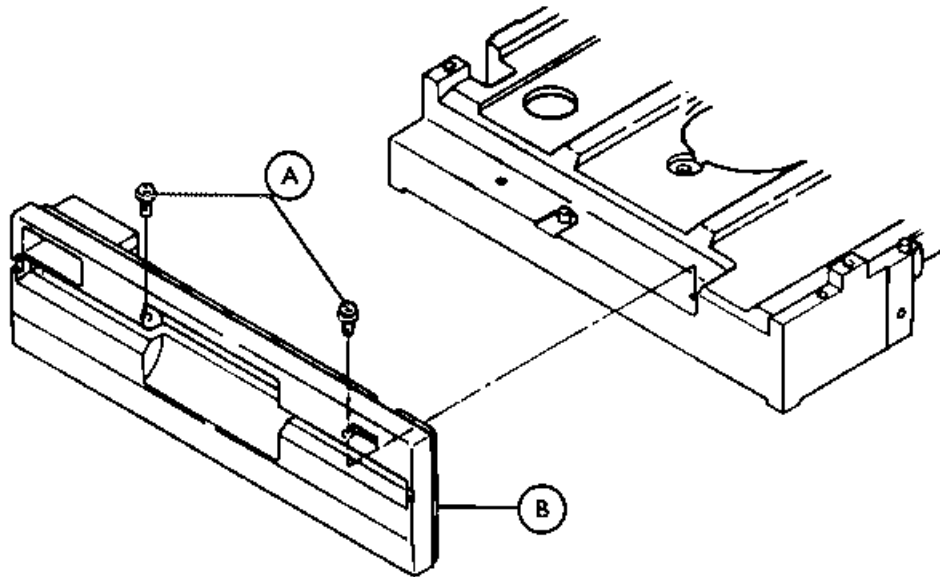

FIGURE 4-9. FRONT PANEL REMOVAL/REPLACEMENT
4.3.5 Front Panel Removal (Figure 4-9)
4.3.6 Front Panel Replacement (Figure 4-9)